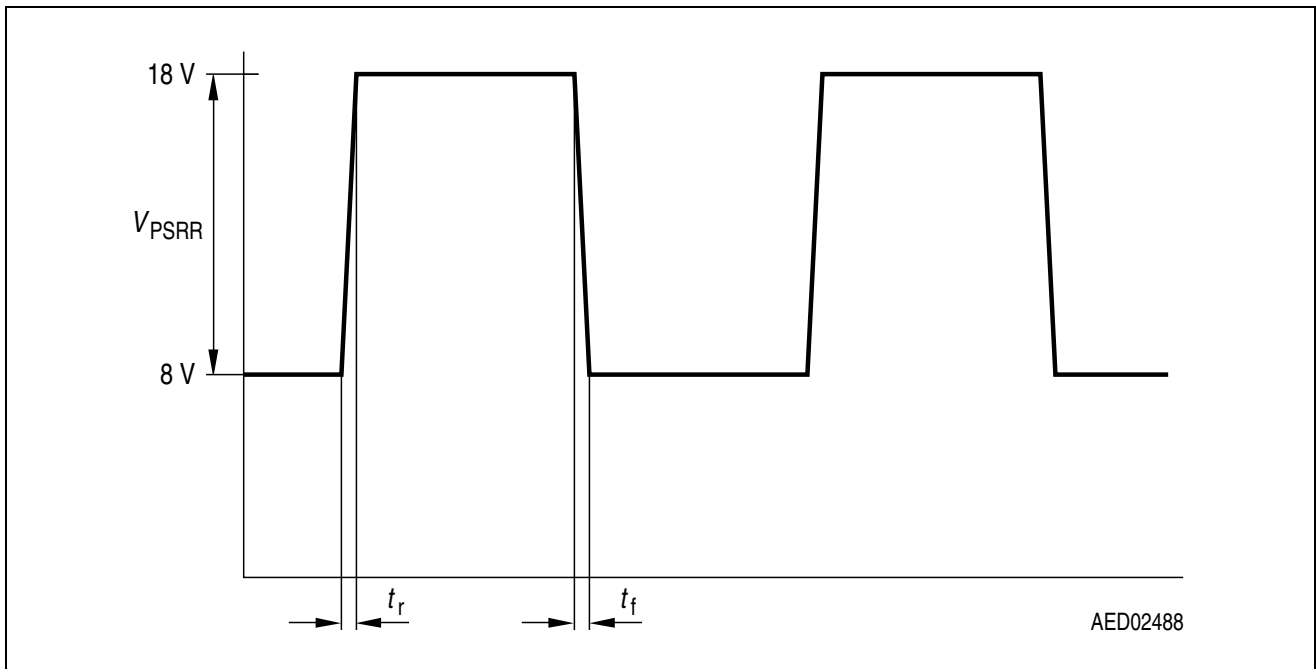

Figure 5
7) For definition see Figure 5.